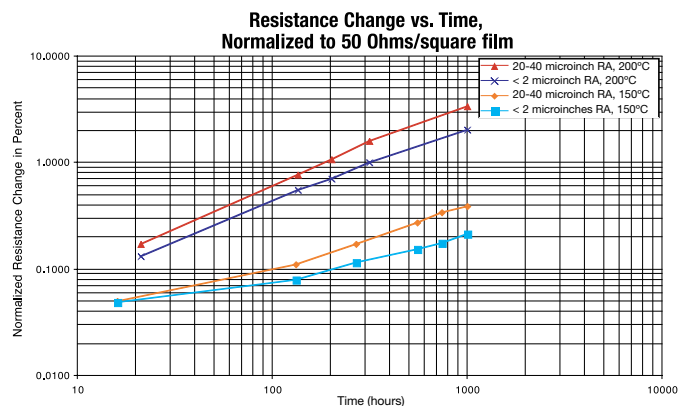

Figure 5: Normalized percent resistance change of Ta₂N oven-aged resistors
Figure 5 shows the average measured change in resistance of four groups of ten each Ta₂N thin-film resistors placed in an oven – no applied power to the resistors – and aged for 1000 hours. The latter number of hours appears
The top curve shows the raw data; average resistance change was about 4.9%. The lower curve shows the data normalized to a 50-ohms/square resistivity, i.e., the resistance change was scaled by the ratio of actual film resistivity, 72 ohms/square, to 50 ohms/square using equation (1). Since the substrate used had an average surface roughness of 2040 microinches, the lower curve should be comparable to the 200°C oven-aged result for this substrate shown in **Figure 5**.